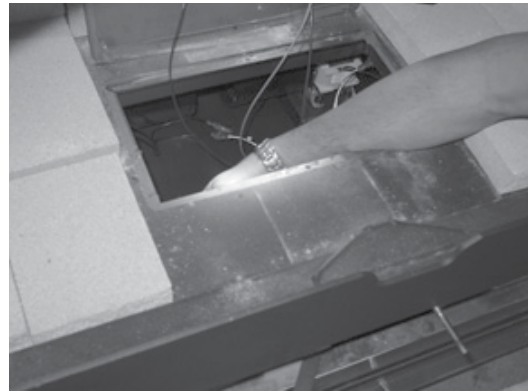

Figure 4.18
8. The timer assembly is bolted under the face. Use a 7/16 socket wrench to remove the 2 bolts. Figure 4.18.
9. There is very little room to pull the timer assembly out the front of the fireplace. Place your hand through the access door in the floor of the fireplace. Let the timer assembly drop down and then rotate it up through the access door. Figures 4.18 and 4.19.